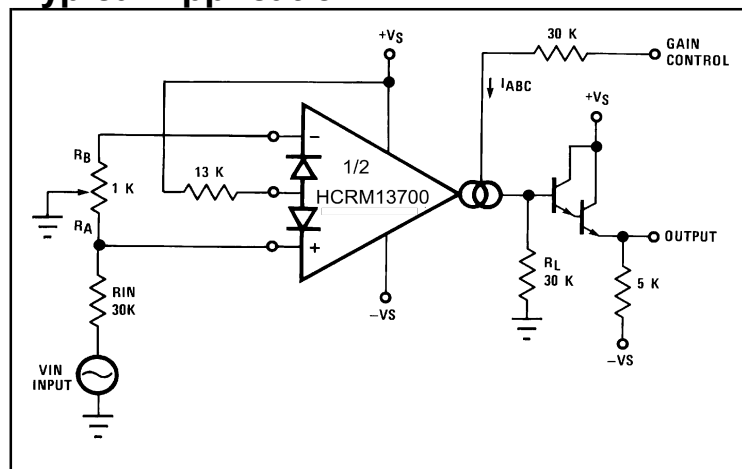

Figure 24. Voltage-controlled amplifier
For differential voltages greater than a few milli volts, The equation (3) becomes less valid and the transconductance becomes increasingly nonlinear Figure 24 demonstrates how the internal diodes can linearize the transfer function of the amplifier. For convenience assume the diodes are biased with current sources and the input signal is in the form of current  $I_s$ . Since the sum of  $I_4$  and  $I_5$  is  $I_{ABC}$  and the difference is  $I_{OUT}$ , currents  $I_4$  and  $I_5$  can be written as follows: